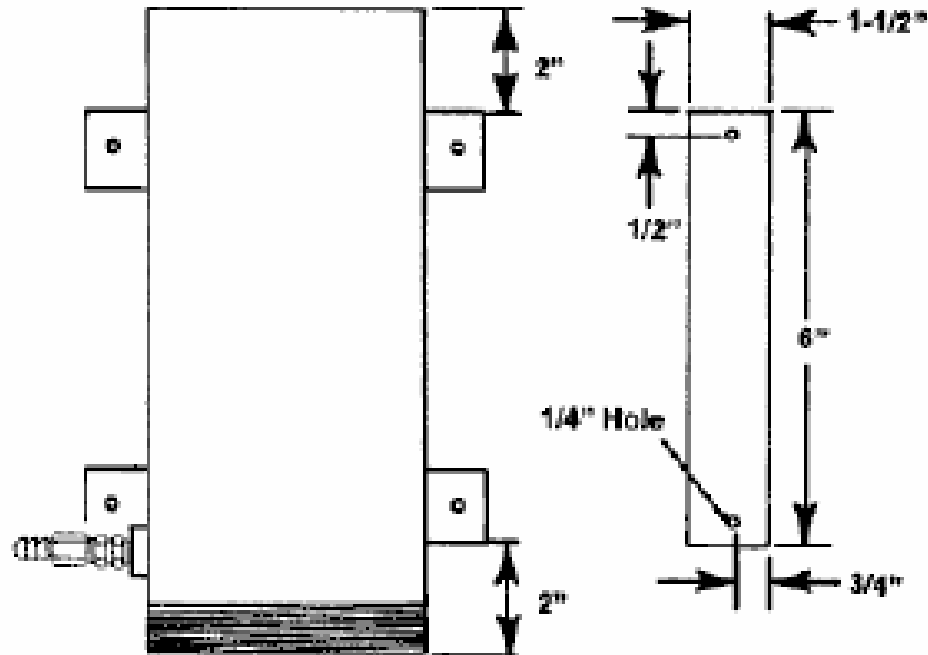

Figure 13: Housing Attachment Details
Bracket arrangements for mounting the Generator are dictated by the requirements of each system installation. Figure 13 shows one of the simplest and most commonly used arrangements. Other arrangements can be easily constructed with 1/8" CPVC sheet.
5. Cut four 1-1/2" x 6" mounting bracket strips from 1/8" thick CPVC sheet, as shown Figure 13. Dress the edges of each strip using sandpaper or a fine-tooth file. Form each of the two brackets by applying primer, and then cement, to the mating surfaces of each of two strips and joining them together. Align the edges of each strip and wipe excess cement from the edges.
The check valve hose attaches to a barbed fitting to be installed later into the hole drilled in step 9. Determine the direction in which you prefer the fitting to point in relation to the mounting brackets. I recommend having the fitting point directly left (as shown in Figure 13) or directly right to minimize generator space requirements.
11. Position the brackets as shown in Figure 13, and clamp them to a flat surface. Check that the housing seats evenly into the curved section of each bracket with no gaps between the housing and curved section. If necessary, loosen the clamps to reposition the brackets.